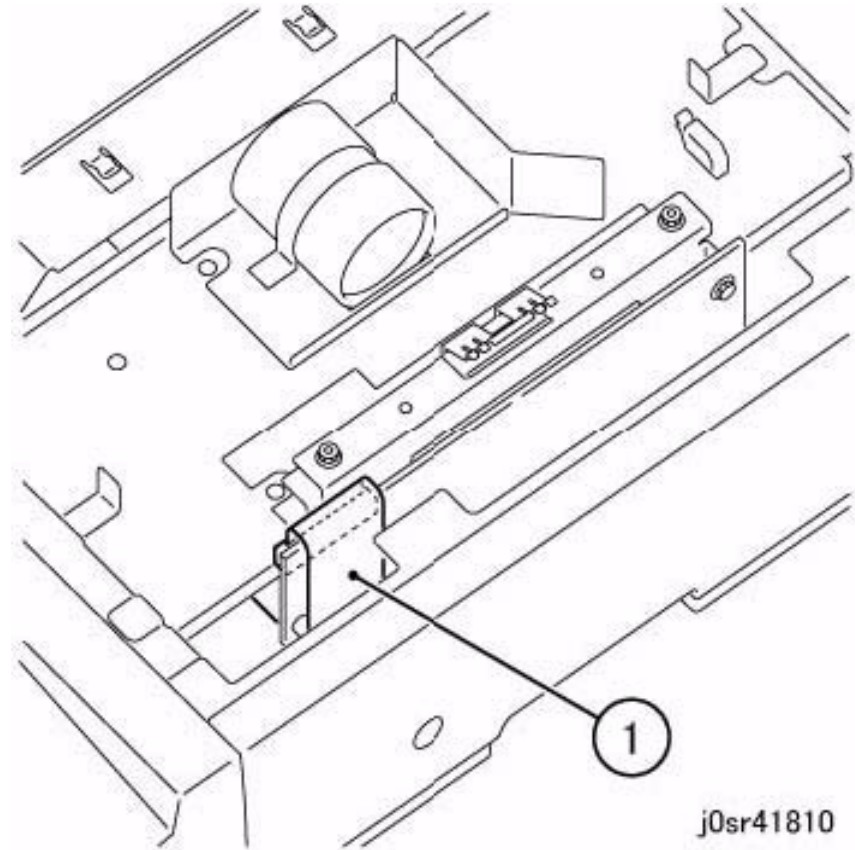

Figure 3 Disconnecting the FFC CCD Cable
4. Disconnect the CCD Flat Cable. (Figure 3)